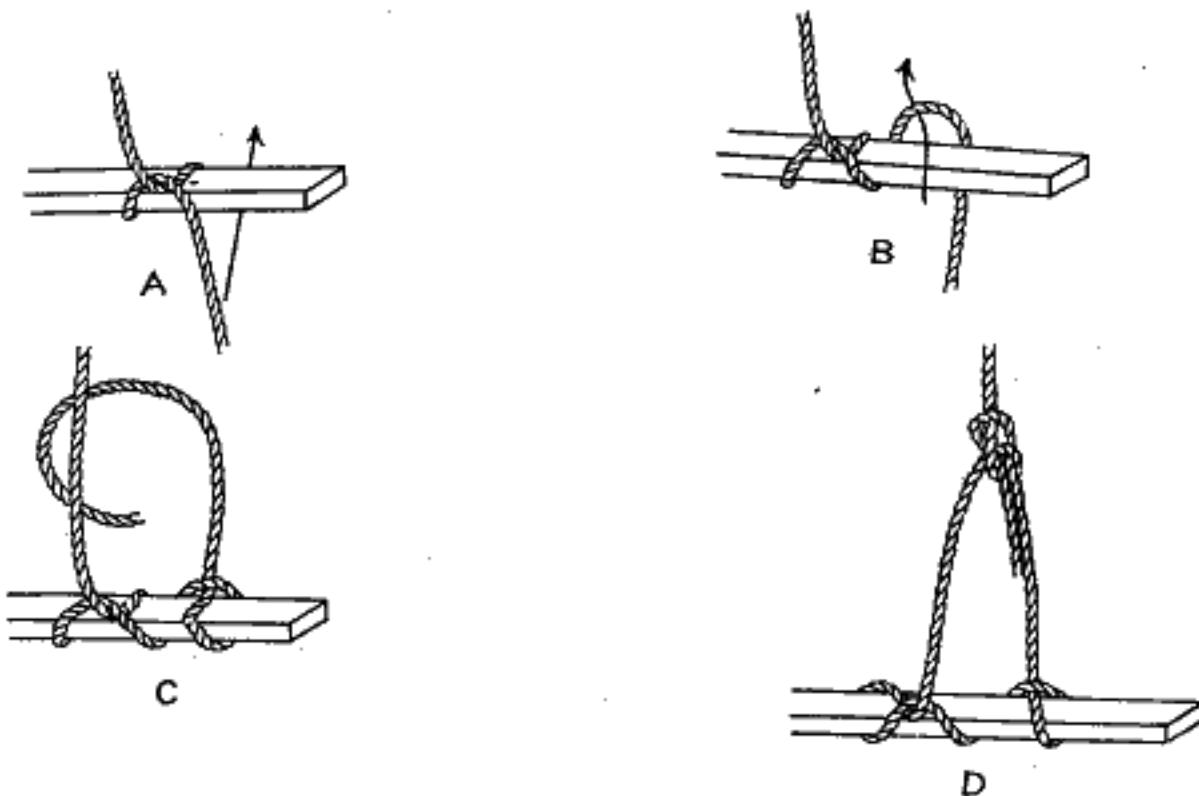

FIG. 343.—The scaffold hitch.
**403.** The scaffold hitch is made by wrapping the rope around the board as indicated in Fig. 343 and then fastening the end to the standing part by use of a bowline knot.